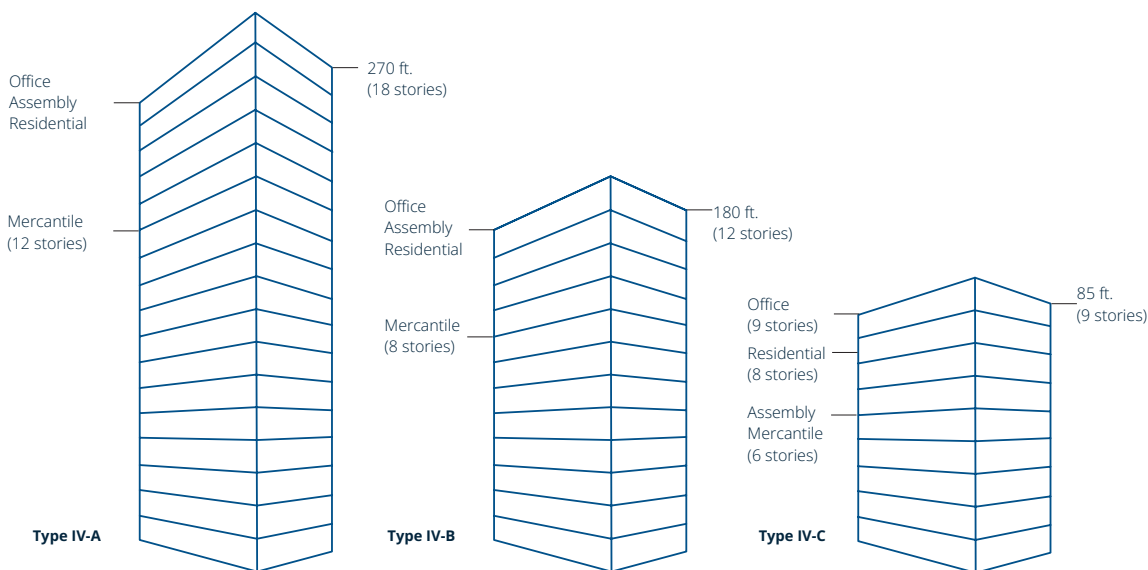

FIGURE 2:
- These materials are approved for use in (see Figure 2):